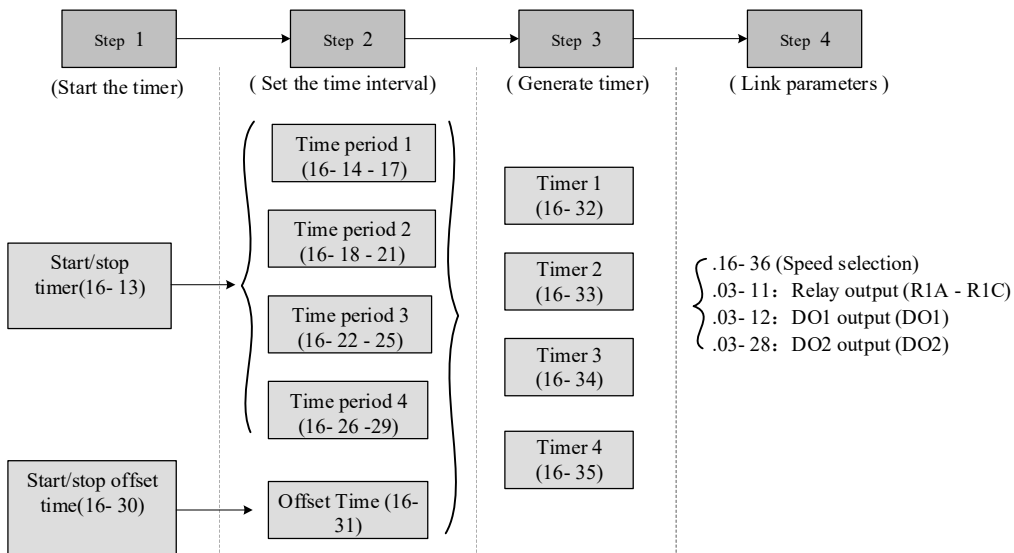

Figure 4.3.135 RTC Structure
- Parameter 16-10 RTC Time Display Setting Hide/Show determines whether the RTC appears on the operator screen. This does not affect the RTC's timekeeping. The RTC time appears at the top of the digital operator when parameter 16-10 is set to 1. Refer to Figure 4.3.135.